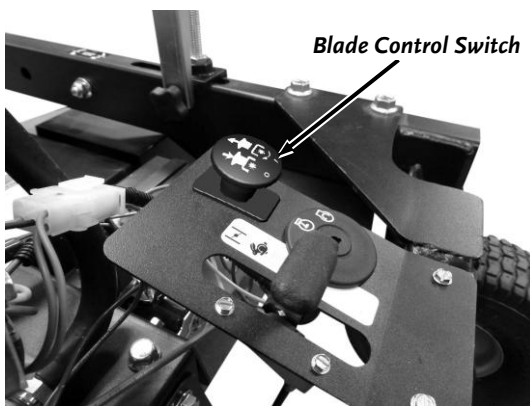

Figure 28
1. Engage the Blades by pulling up on the Blade Control Switch (**Figure 28**).